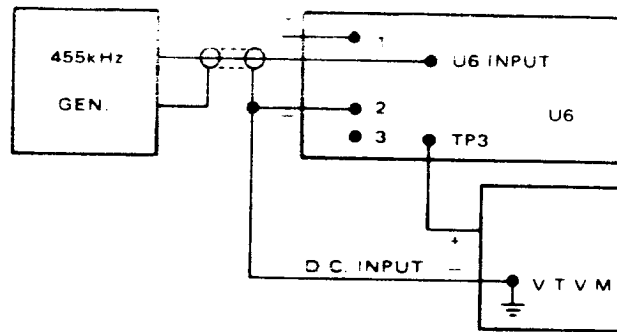

Figure 2
1. Set up the equipment as shown in Figure 2.
5. To check the discriminator, vary the input frequency by 5 kHz (N) or 15 kHz (NW) and check that the change of output is ≥ 1 V (N) or ≥ 2 V (NW).